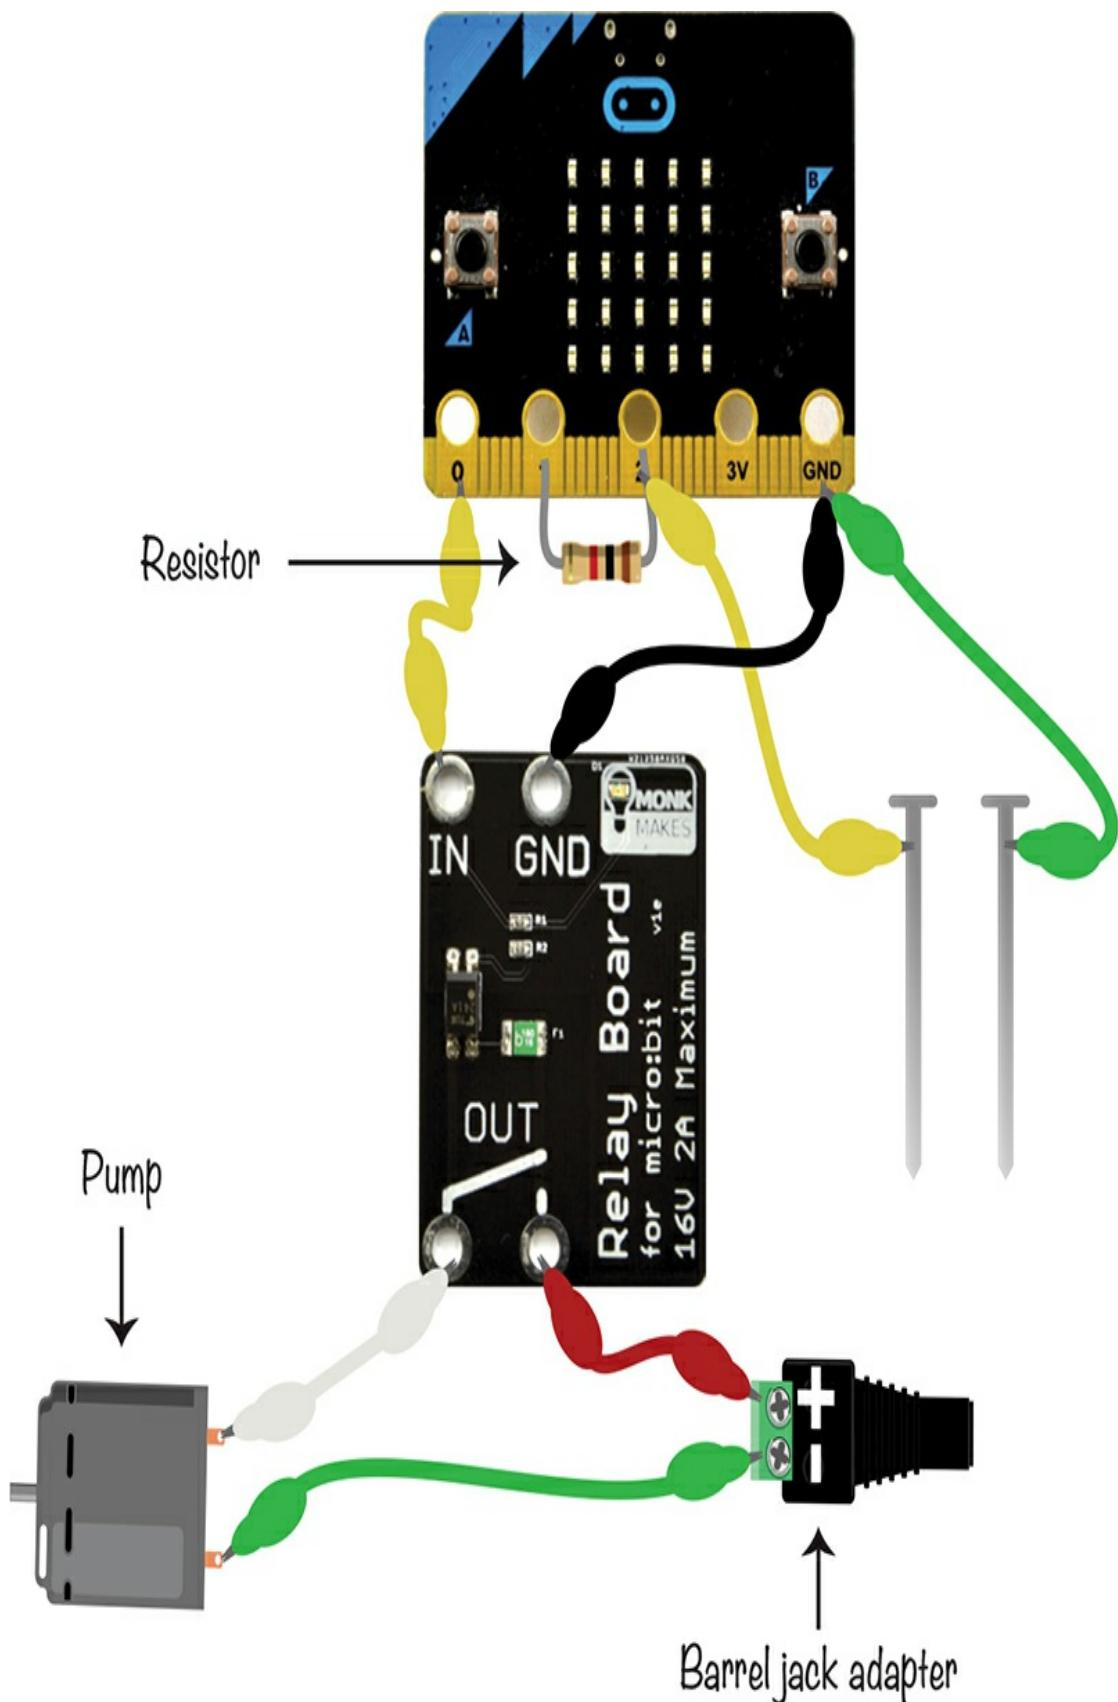

Figure 9-7: Wiring for the automatic plant waterer project
Figure 9-7 shows how the electronics are connected to give you an idea of what you are aiming for as you follow the step-by-step instructions.
3. Using Figure 9-7 as a reference, wire up the alligator clips to the micro:bit, relay board, barrel jack, and pump. Don't attach the yellow and green cables to the nails or connect the tubes to the pump just yet. To get the alligator clips to attach to the screw terminal ends of the DC barrel jack adapter, use a screwdriver to fully open the screw terminals. If your alligator clip jaws are too big to fit into the screw terminal holes, you can fit straightened-out paper clips into the screw terminals and then clip the alligator clips onto those.